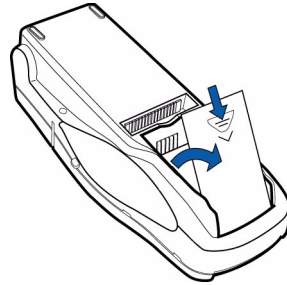

Figure 9 Open the MSAM Access Door
- 2 Open the MSAM door located beneath the battery (Figure 9):